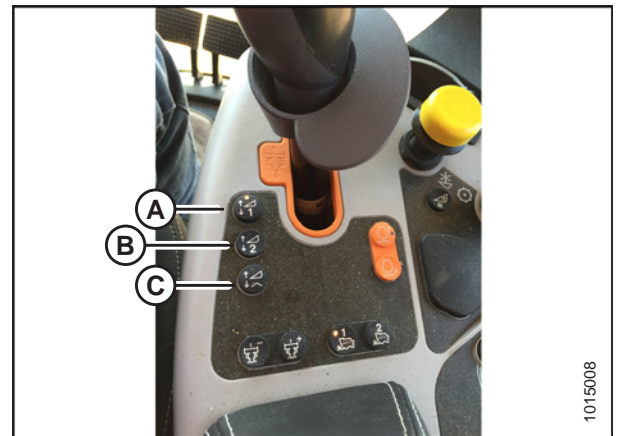

Figure 3.392: New Holland Combine Controls
5. Select one of the auto height set point buttons shown in Figure 3.392, page 235.